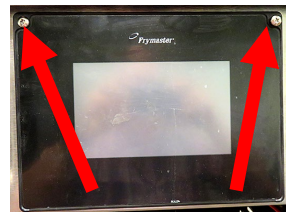

Figure 11
4. Remove the two Phillips head screws from the upper left and right corners of the controller (see Figure 11).